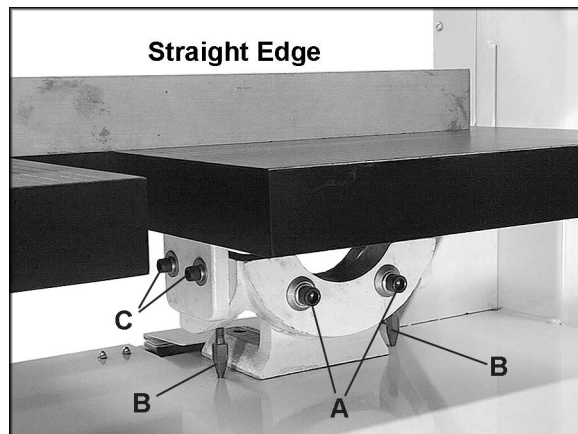

Figure 12
1. After the main work table has been set perpendicular to the blade, use a straight edge to confirm that the auxiliary table is level with the main table, as shown in Figure 12. If the auxiliary table is not level with the main table, make adjustments as follows.
2. To tilt the auxiliary table left or right, loosen the screws (A, Figure 12) and turn one of the stops (B, Figure 12) as needed. Re-tighten screws (A, Figure 12) securely after adjustment.
3. To adjust the table front to back, loosen screws (C, Figure 12). Re-tighten screws securely after adjustment.